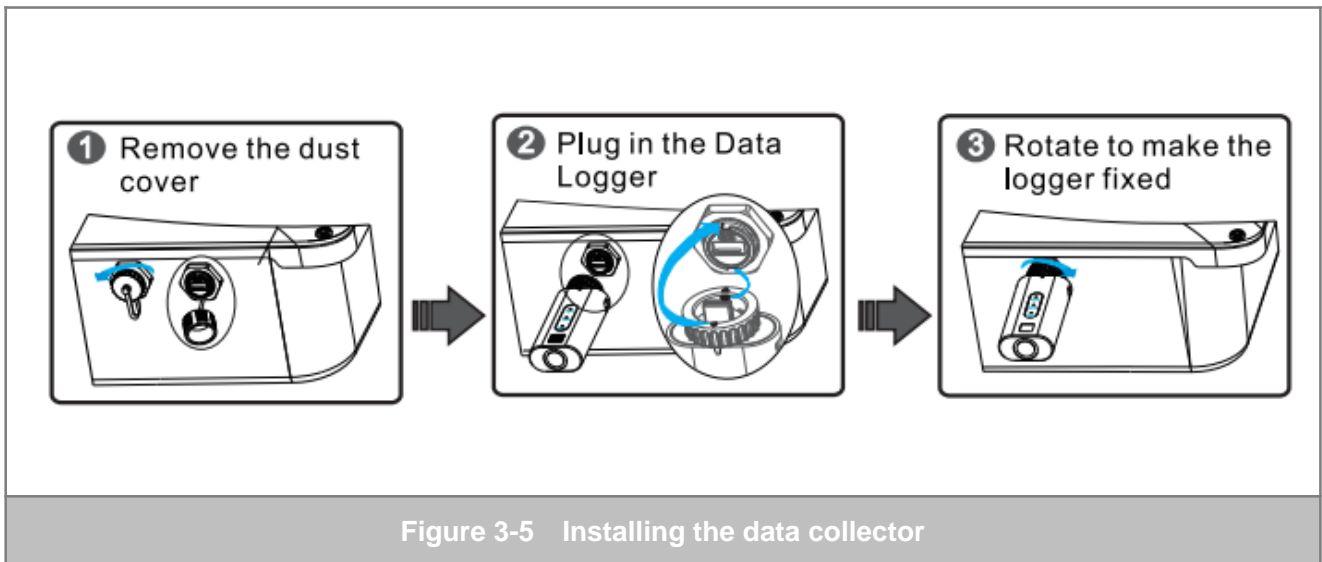

Figure 3-5 Installing the data collector
- 1 . This step is only for scenarios where the data collector is configured. Figure 3-5 shows the installation method.